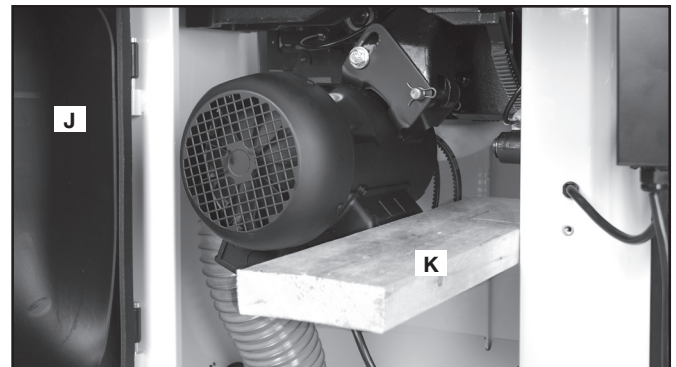

FIG. 86
1. Open the motor cover (J) Fig. 86.
2. Place a piece of wood (K) Fig. 86 between the motor and the saw cabinet.
4. Raise the saw arbor slightly and remove the wood (K) Fig. 86.